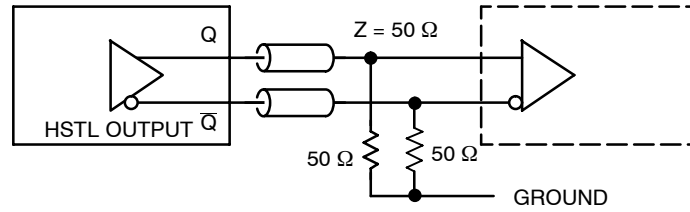

Figure 6. HSTL Output Termination and AC Test Reference
3. All outputs loaded with 50 Ω to GND (See Figure 6).
- Measured with 750 mV (LVPECL) source or 1 V (HSTL) source, 50% duty cycle clock source. All outputs loaded with 50  $\Omega$  to ground (See Figure 6).